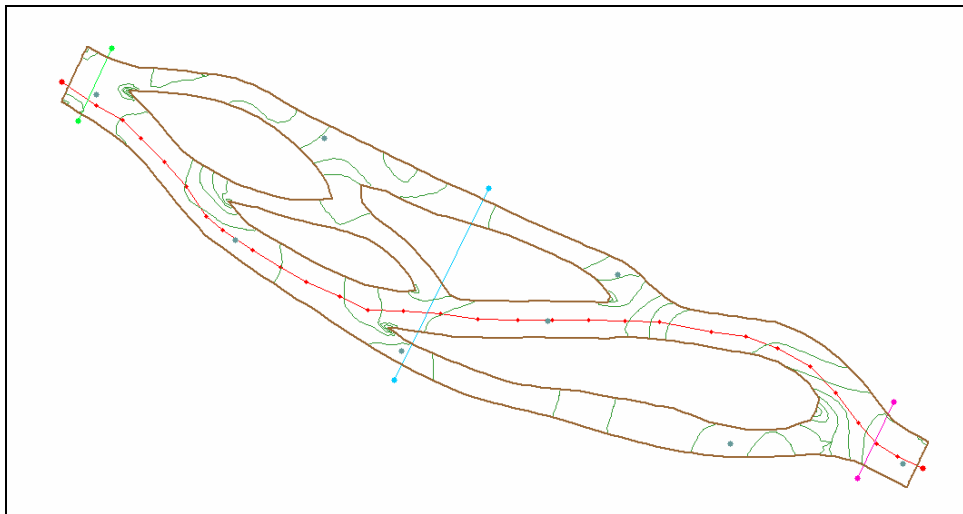

Figure 4-8 Profile and cross-section arcs
3. Create an arc down the main channel, as shown in Figure 4-8. Remember to double-click the last point to end the arc.
2. Create each of the cross section arcs, as shown in Figure 4-8. Note: When creating these, DO NOT click ON the profile arc, as this would split it.